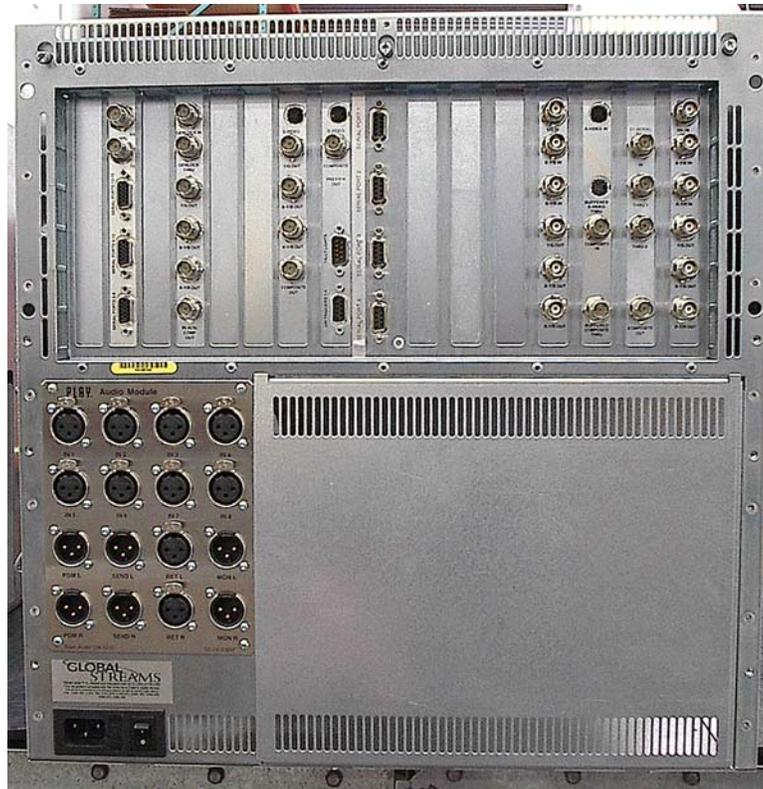

Figure 3.1: The GlobeCaster Studio Hardware Unit's Input/Output Backplate
1. One (1) GlobeCaster Studio hardware unit
This is the main hardware unit itself, to which all video inputs and outputs are connected. A typical configuration of the GlobeCaster hardware unit is two (2) composite/S-video input cards and one (1) composite/S-video output card. The GlobeCaster hardware unit's inputs and outputs are found at the rear of the unit, as shown in Figure 3.1.